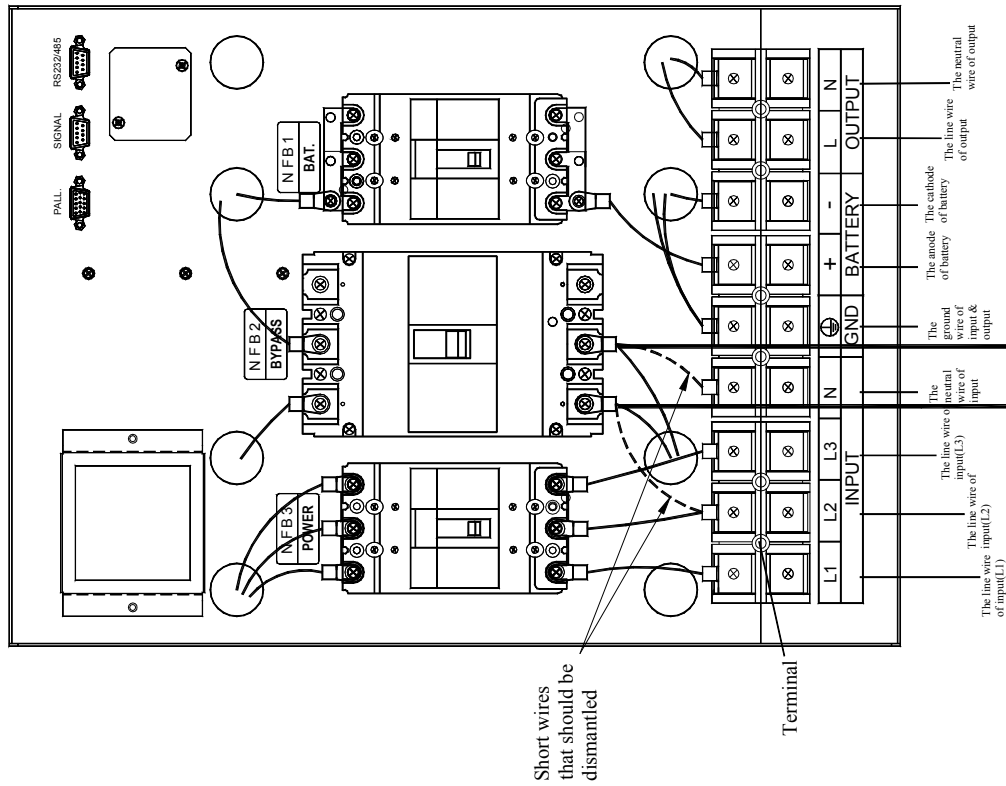

Figure 4-10 Connection of FR-UK T Series UPS (20~50KVA) hot standby system
1. The connecting mode of FR-UK T Series UPS (20~50KVA) hot standby as showed in Figure 4-10.